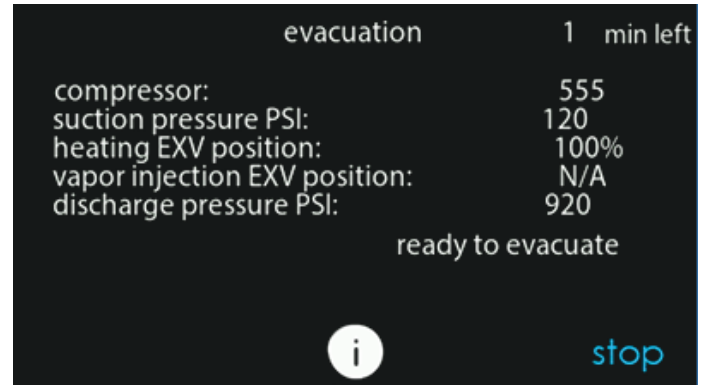

Fig. 27 – Evacuation Status Screen
5. Begin evacuation or refrigerant recovery as required for the procedure after Evolution™ Connex™ System Control indicates the EXV is open. Power may be removed from heat pump after the Evolution™ Connex™ System Control indicates “READY TO EVACUATE.” See Fig. 27.